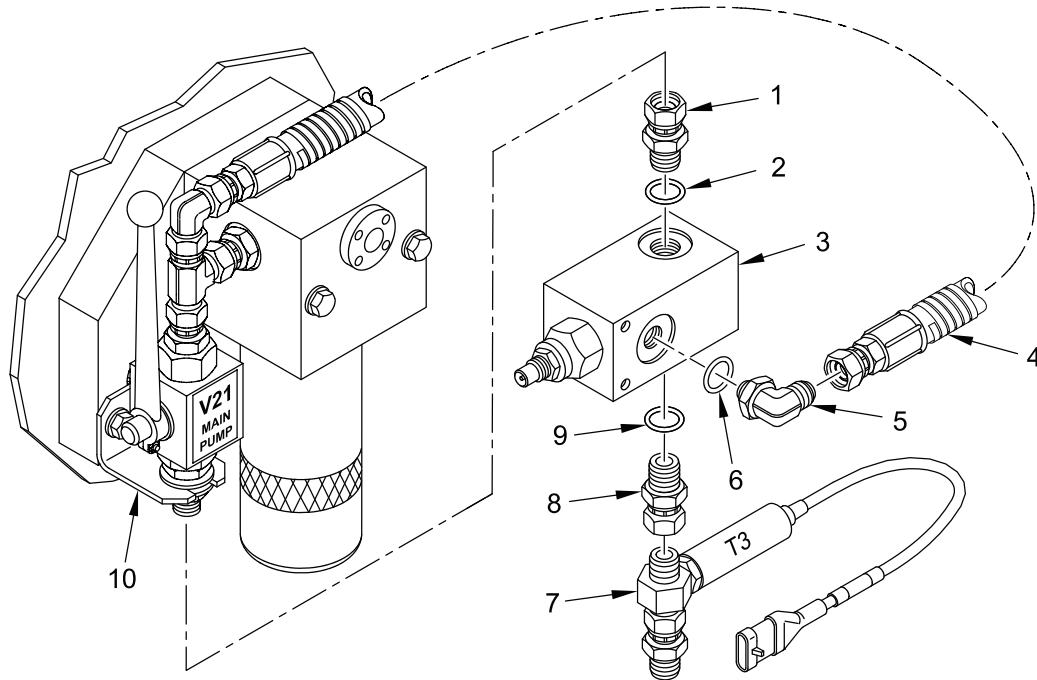

Figure 4. Installing Valve V21 (V22), Relief Valve, and Bypass Hose
6. Install new o-ring (Figure 4, item 2) and adapter (Figure 4, item 1) on relief valve (Figure 4, item 3) and attach to bulkhead bracket (Figure 4, item 10).
7. Install new o-ring (Figure 4, item 9) and adapter (Figure 4, item 8) on relief valve (Figure 4, item 3) and attach tee (Figure 4, item 7) to adapter (Figure 4, item 8).
8. Install new o-ring (Figure 4, item 6) and adapter (Figure 4, item 5) on relief valve (Figure 4, item 3) and attach bypass hose (Figure 4, item 4) to adapter (Figure 4, item 5).